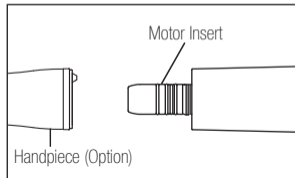

Fig. 2
1) Connect the handpiece direct to the motor. (Fig. 2) When connecting an optic handpiece, twist the handpiece until it clicks into position.